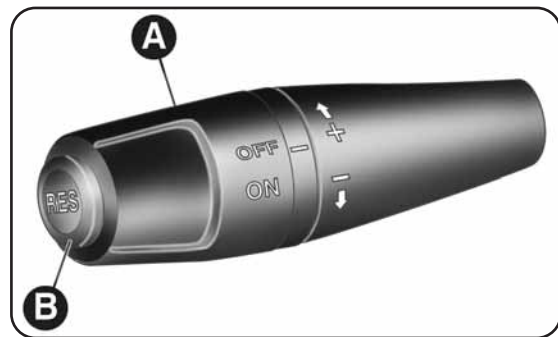

fig. 43
Turn ring A-fig. 43 to ON. The device cannot be turned on in 1st or reverse gear. It is advisable to engage it in 5th gear or higher. When travelling downhill with the device engaged, the car may slightly exceed the preset speed. When the device is activated,  light comes on together with the relevant message on the instrument panel (for versions/markets, where provided).
- turn A ring fig. 43 to ON and press the accelerator until the car reaches the desired speed;
- press RES button (B-fig. 43).
- turn the A ring fig. 43 to OFF;
In the event of faulty operation or fault, turn the ring A-fig. 43 to OFF and contact an Alfa Romeo Authorised Service.